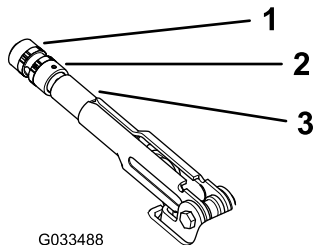

Figure 56
2. Loosen the set screw securing the knob to the parking-brake lever (Figure 56).